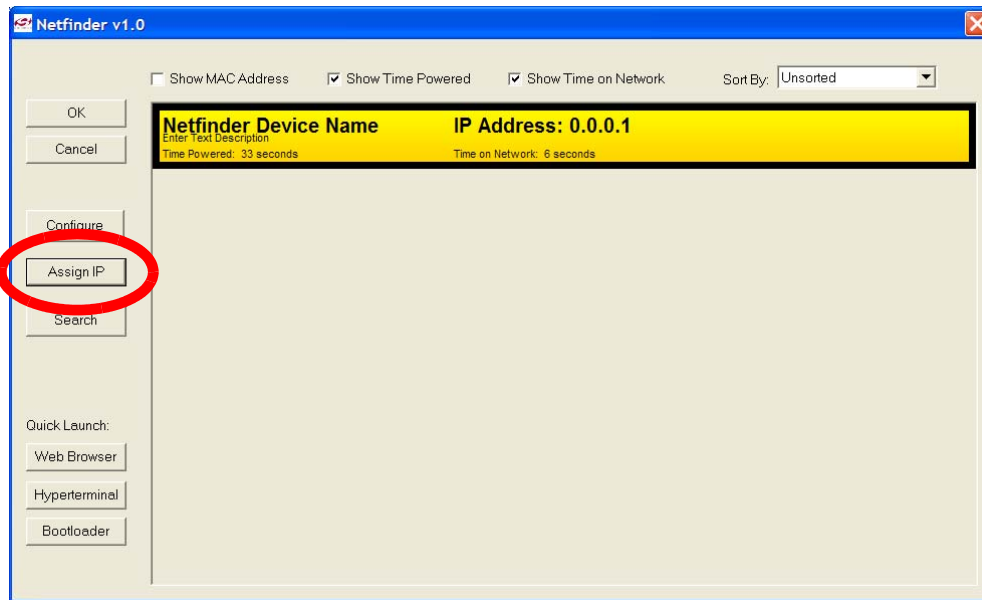

Figure 17. Static IP Address Mode
6. If the network does not have a DHCP server, then the embedded system will search for approximately 35 seconds before going into static IP address mode. After going into static IP address mode, Netfinder will display information about the device in a window with a yellow background. Select the device by **clicking inside the yellow area** and **pressing the Assign IP button** as shown in Figure 17.